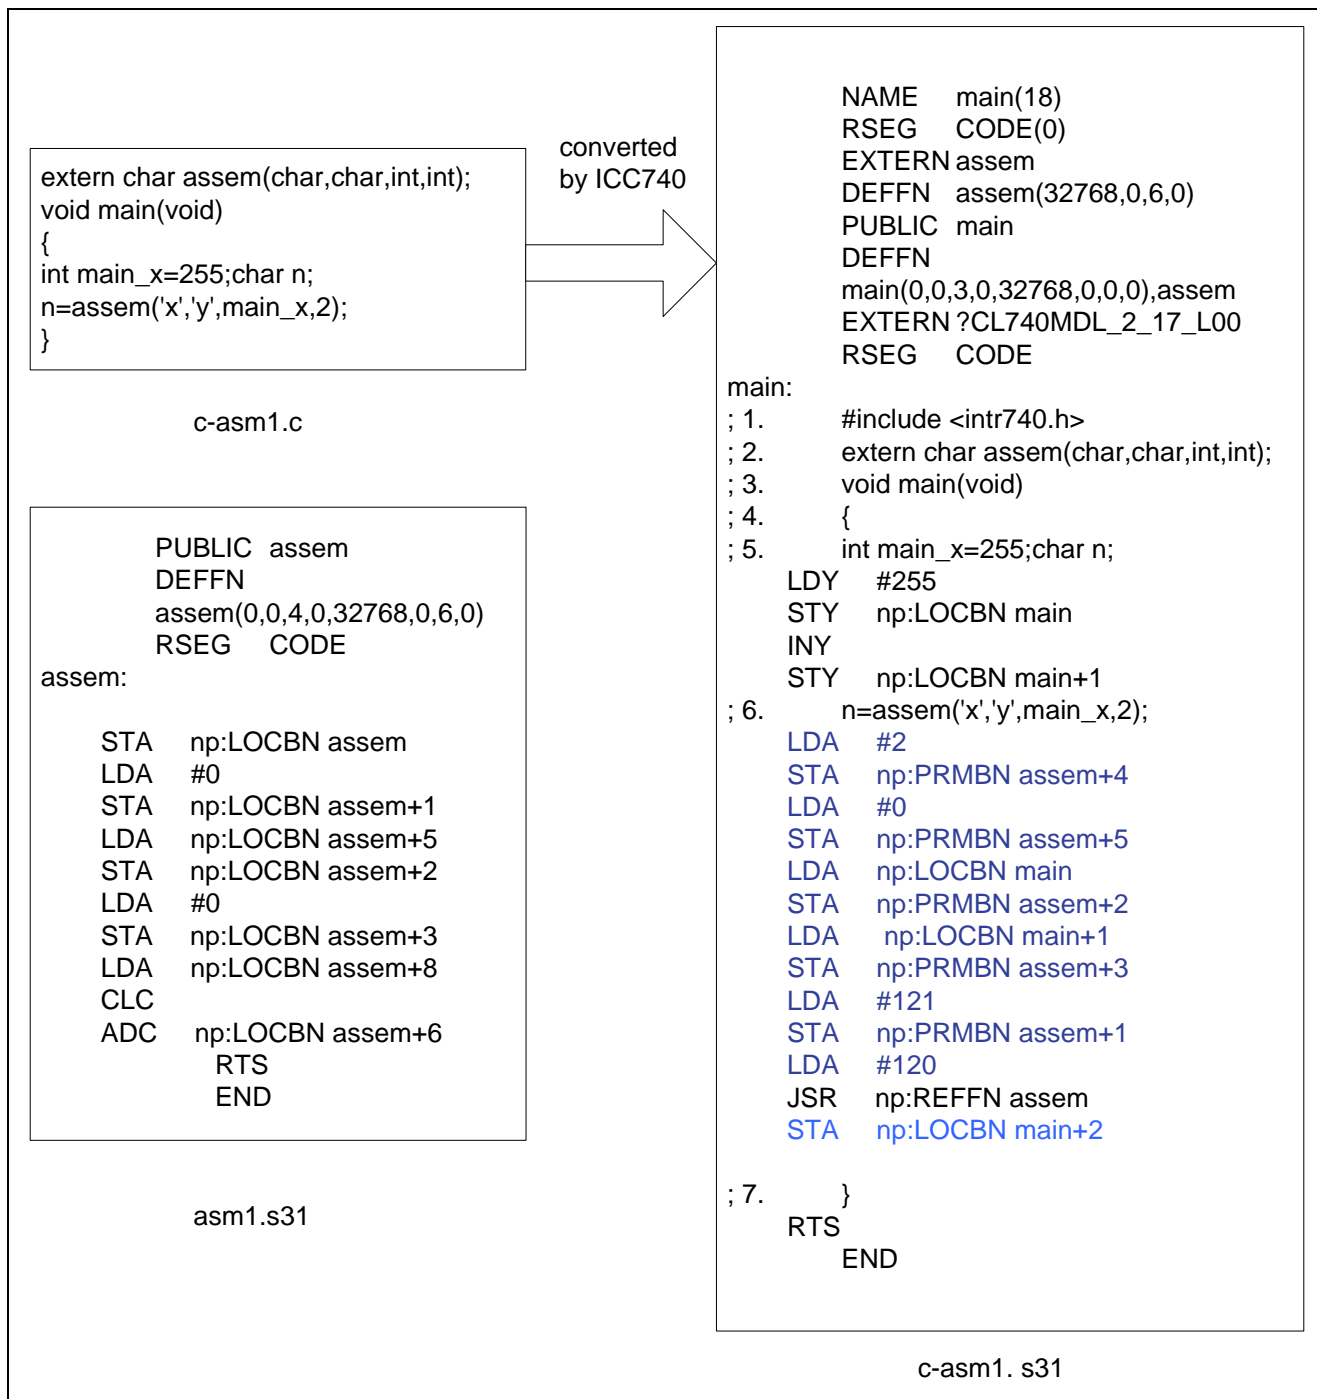
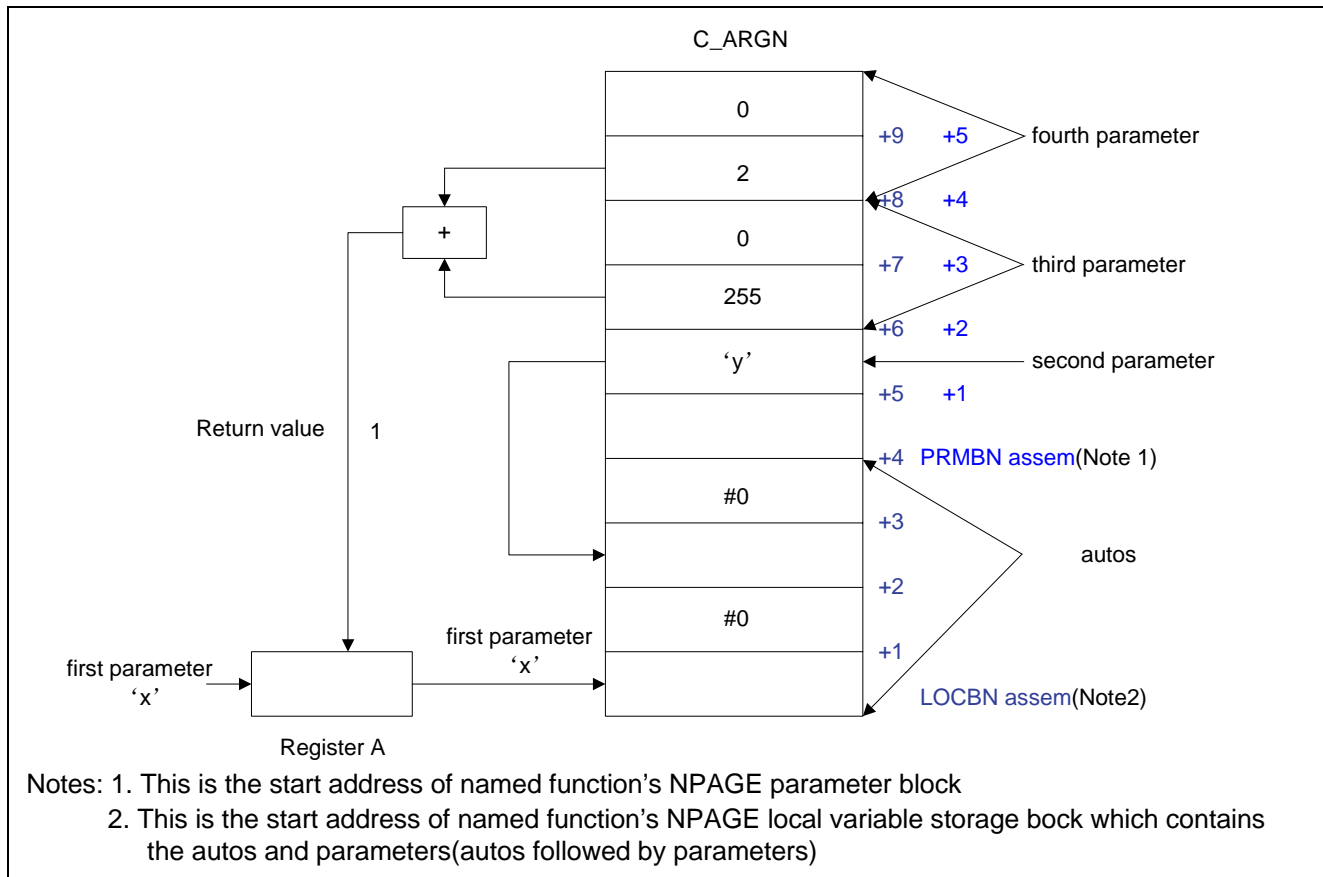
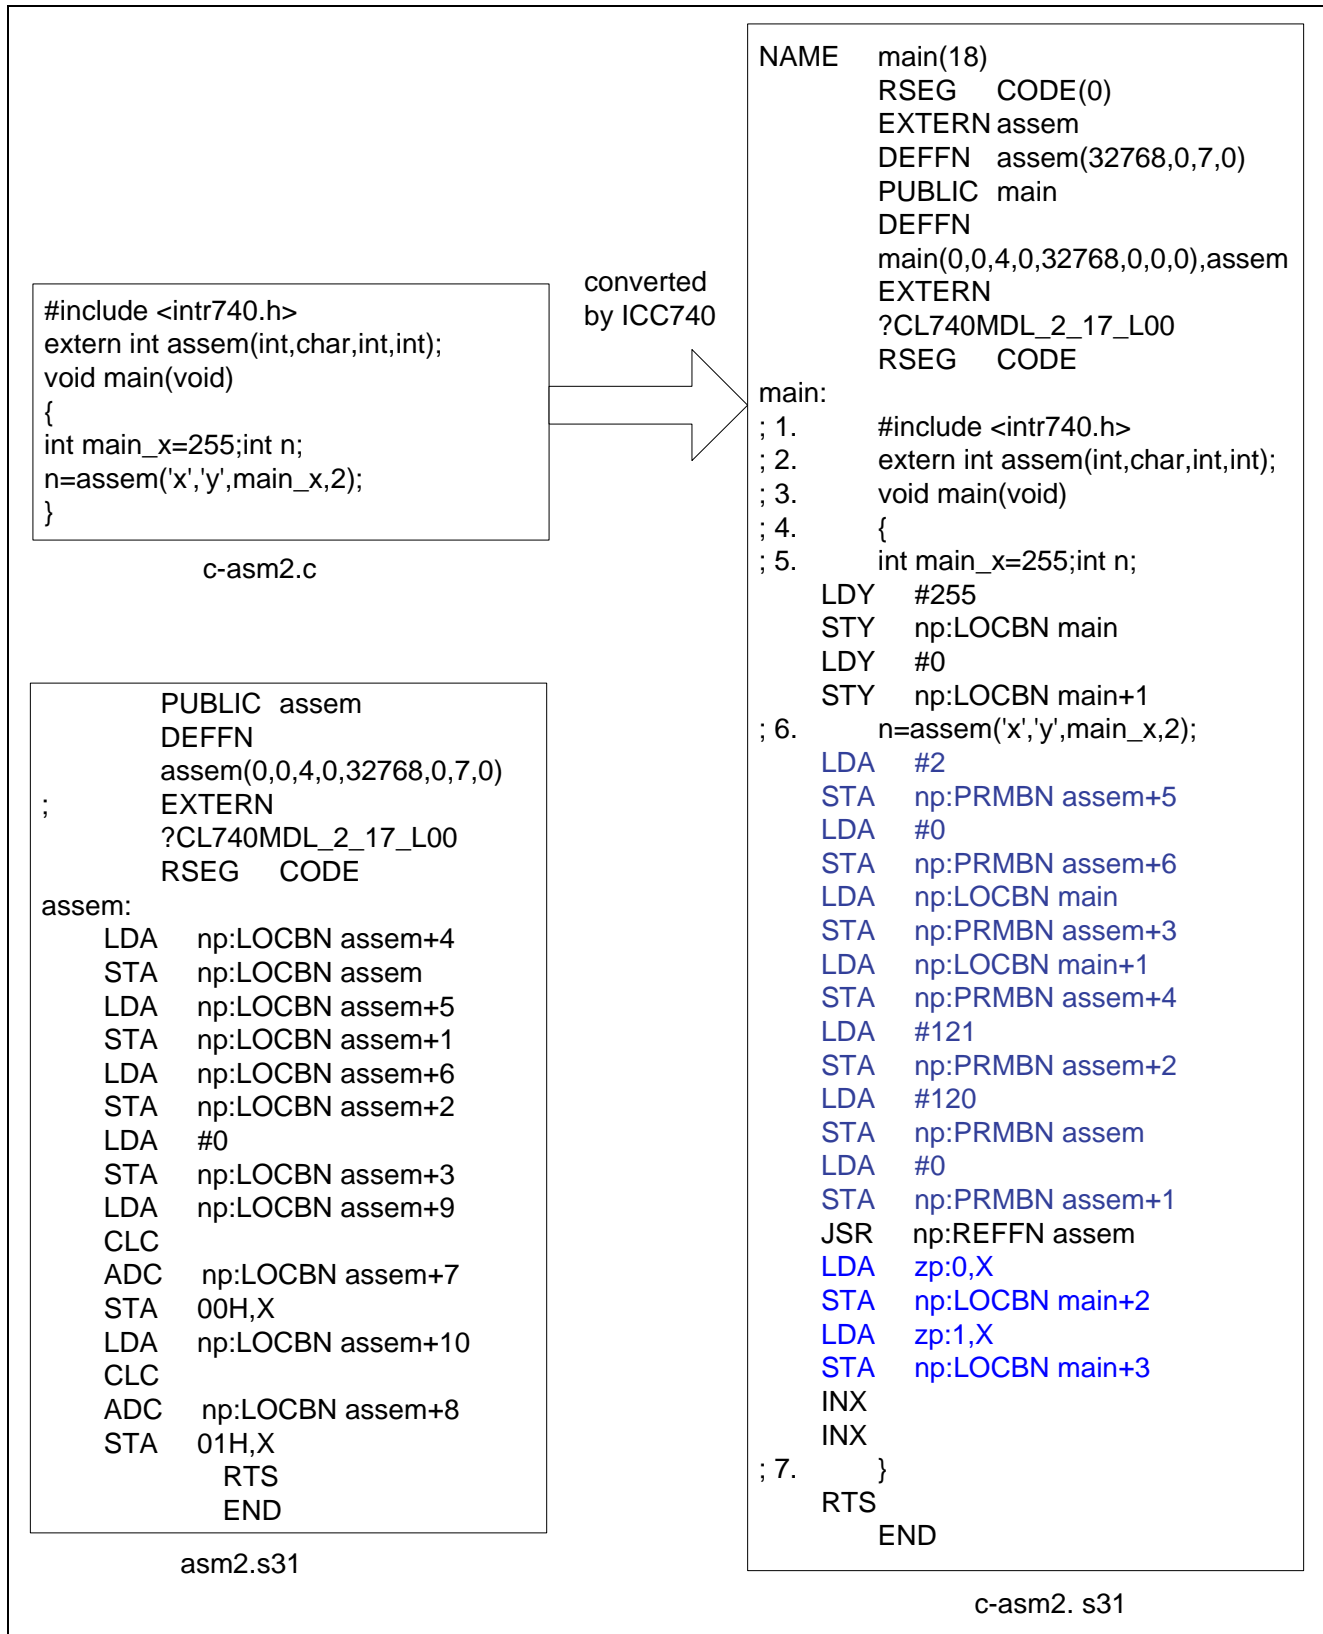
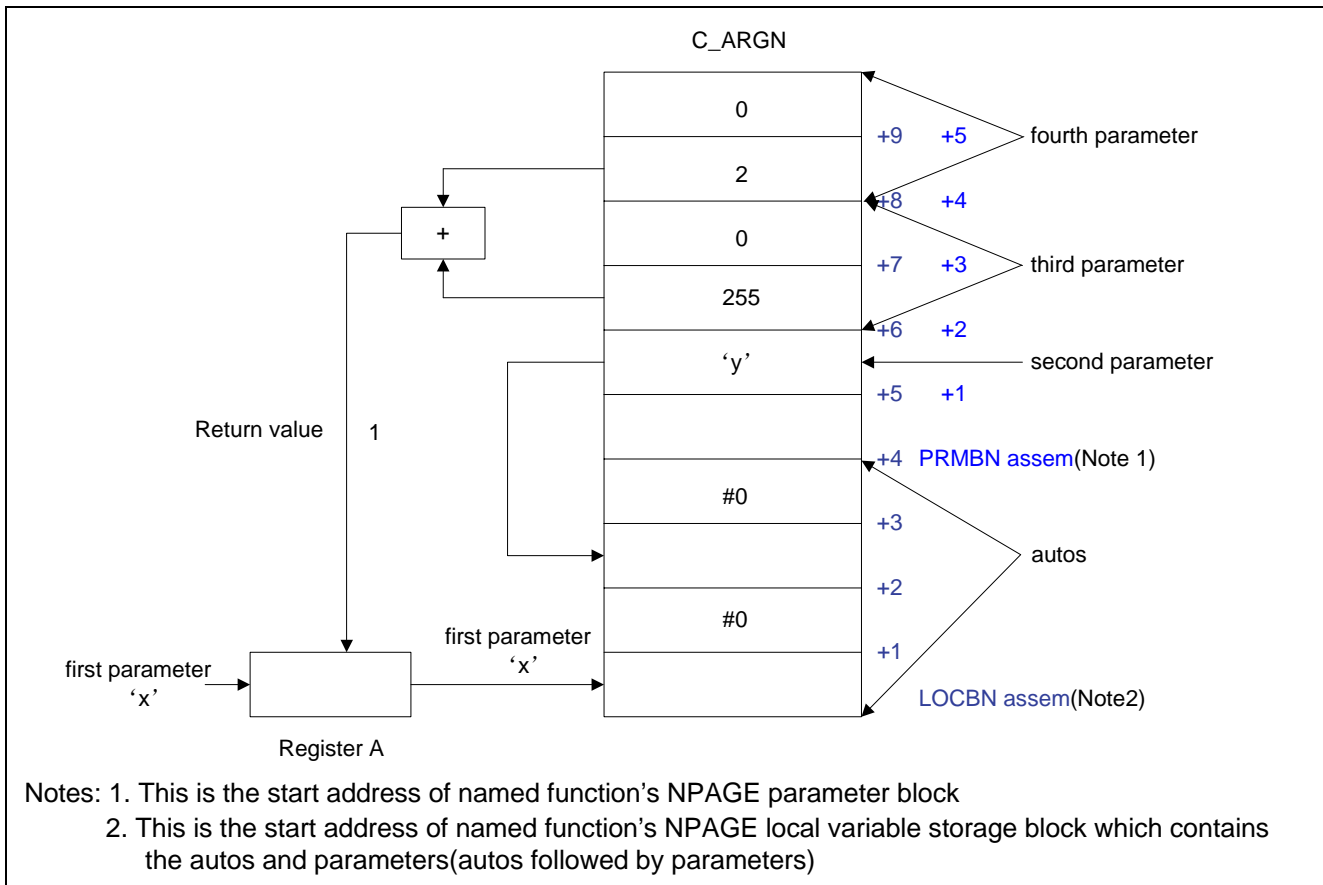

Figure 3 C Program And ASM Program (1)
Figure 4 Memory Assign (1)
Figure 5 C Program And ASM Program (2)
Figure 6 Memory Assign (2)
- In the subroutine(assembly language function), do not normally alter the X register and flag values that are used exclusively by the ICC740. If the X register or flag value needs to be altered, save the value on entry to the function and restore it from the stack on exit from the function. Figure 3 shows how to call the assembly language subroutine.
This section will describe how the parameters and return values are passed according to the different types in the actual C-ASM mixture program and how the memory is assigned. Figure 3 and Figure 4 will show the the passing with “char” type . Figure 5 and Figure 6 will show the passing other than “char ”type. For passing the parameters correctly, it is important to know where the parameters are placed both in C and assembly program.
Program c-asm1.s31 is the assembly language program which is created by compiler ICC740. From c-asm1.s31, we can know how the compiler deal with the parameter and return value. The red part in c-asm1.s31 is the disposal of parameter before calling assembly language subroutine. The blue part in c-asm1.s31 is the disposal of return value after returned from assembly language subroutine. Because the first parameter of “assem” subroutine is “char”, so the character ‘x’ will be put to the register A. And the return value is also the character, so the return value is put to the register A likewise. The memory assign is shown in Figure 4.
From Figure 4, we can know that addresses , which are (PRMBN assem),(PRMBN assem+1)... (PRMBN assem+5), are used to store the parameters. Though the first parameter is put to register A ,in C_ARGN segment there still reserved the places for the first parameter. Autos in assembly language subroutine are stored following the address of parameters.
Because the first parameter of “assem” subroutine is “int”, so the integer character ‘a’ will be put to the C_ARGN segment. And the return value is also the integer, so the return value should be put to the EXPR_STACK. The memory assign is shown in Figure 6.